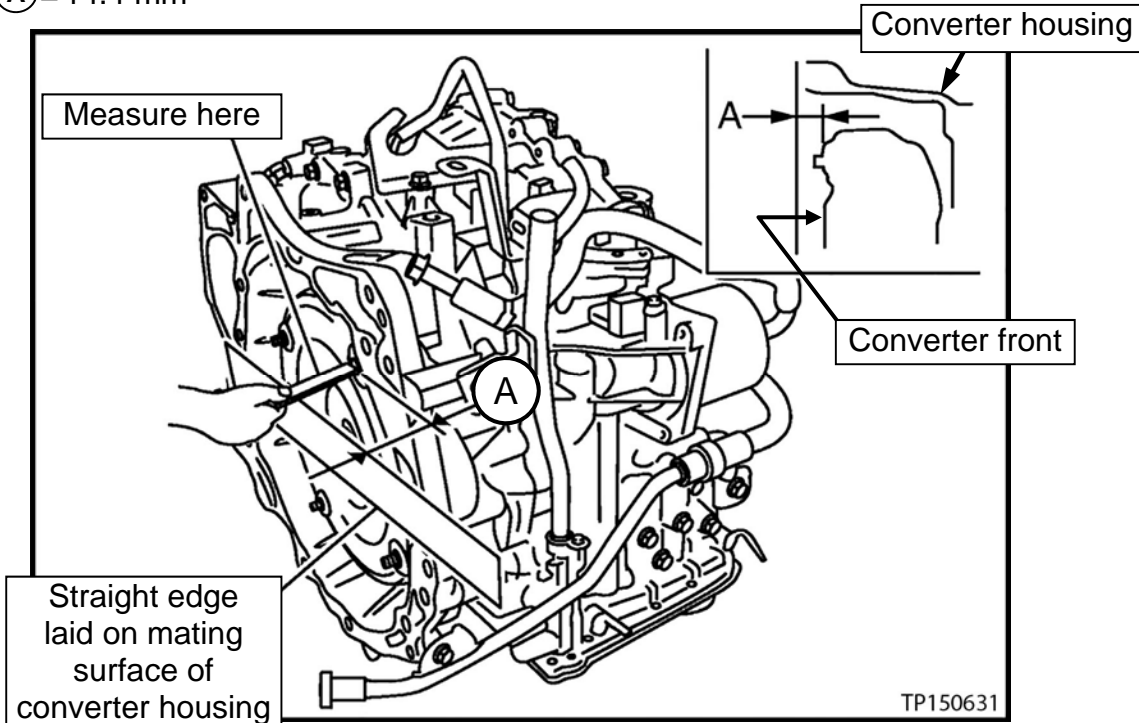

Figure 162
- Verify the torque converter is installed at the proper depth (Figure 162).